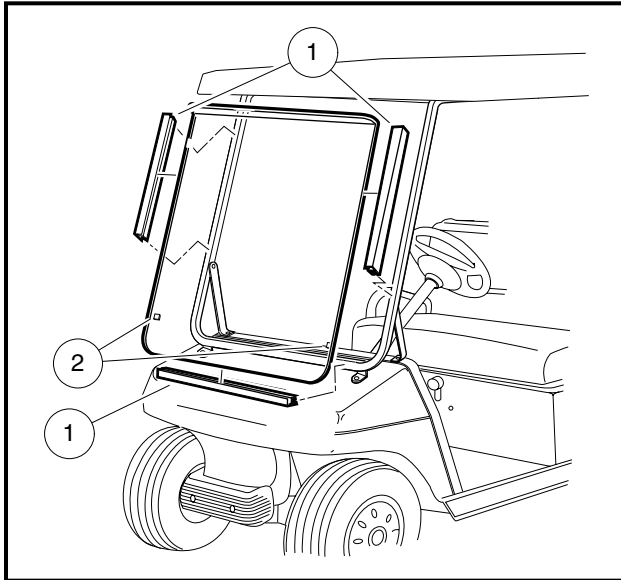

Figure 8 Install Windshield
1. Install the two rubber bumpers (2) on the frame side of the windshield (**Figure 8**).
2. Install the three mounting channels (1) onto the windshield as shown. Push all three channels onto the frame evenly until the channels are firmly attached to the frame.